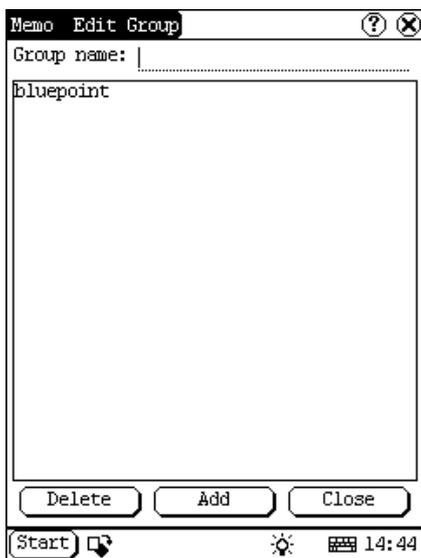

Figure 4-18
- 5) Click [Add] button to add a new type and it will be displayed in the list box of the Edit Group interface. (See Figure 4-18)